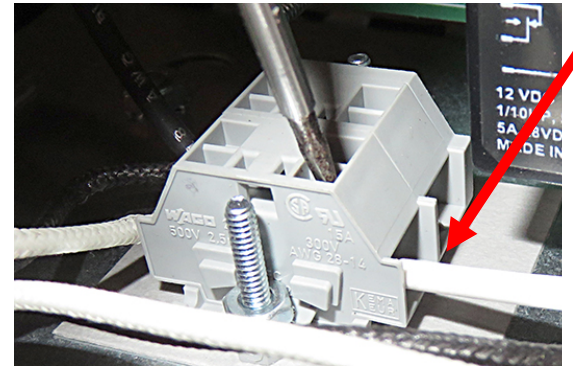

Figure 19
28. Locate the T2 terminal block with the wire wires, in the control box. Press down on the lock of an empty terminal and insert the white wire (see Figure 19) and release the lock. Ensure the wire is locked into the terminal block.